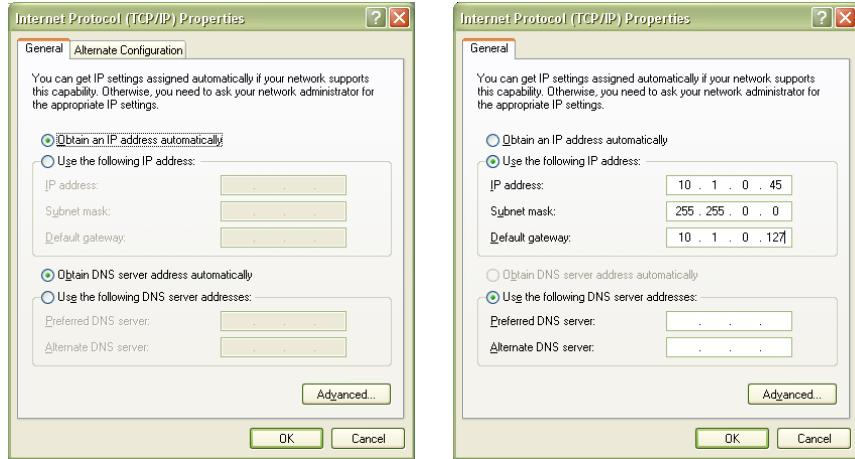

FIGURE 2-6: DYNAMIC (LEFT) AND STATIC (RIGHT) IP ADDRESS CONFIGURATIONS
- 5) Determine if the PC is set to use auto or static IP. Figure 2-6 shows examples of both auto and static IP address configurations.